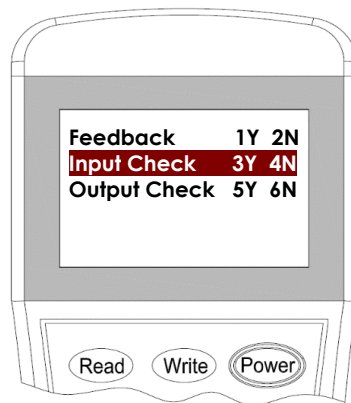

Figure 13
4. Input the **“3”** key for Check mode then press **“Write”** to change the setting (Figure 13).